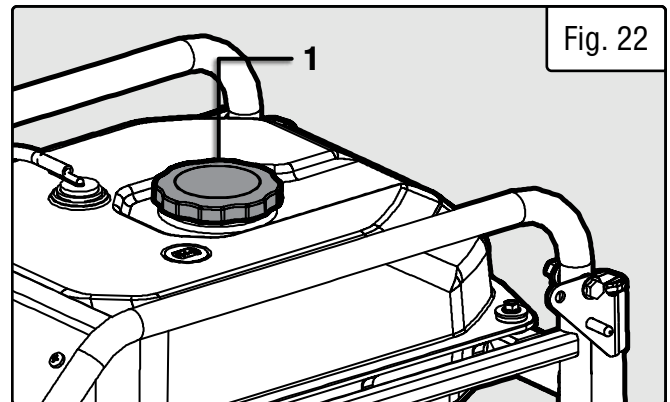
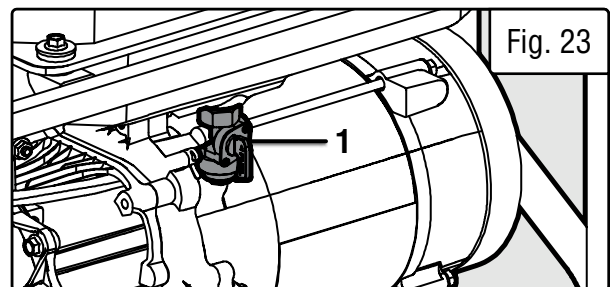

Fig. 22
Fig. 23
3. Remove the fuel cap (Fig. 22 - 1) and turn the fuel valve (Fig. 23 - 1) ON.